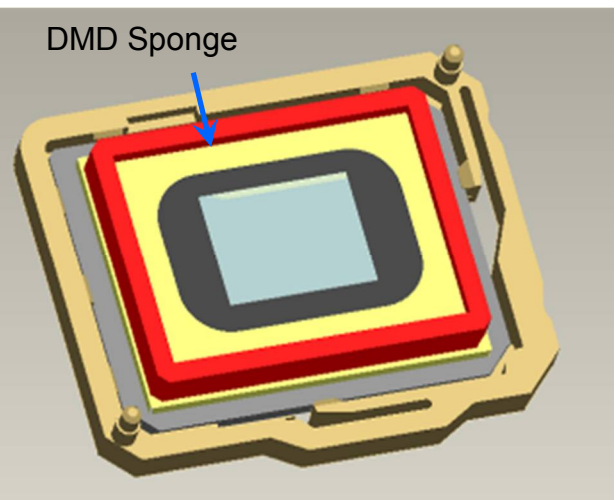

Fig. 4-4
- C. Place "DMD sponge" on DMD (Fig. 4-4).